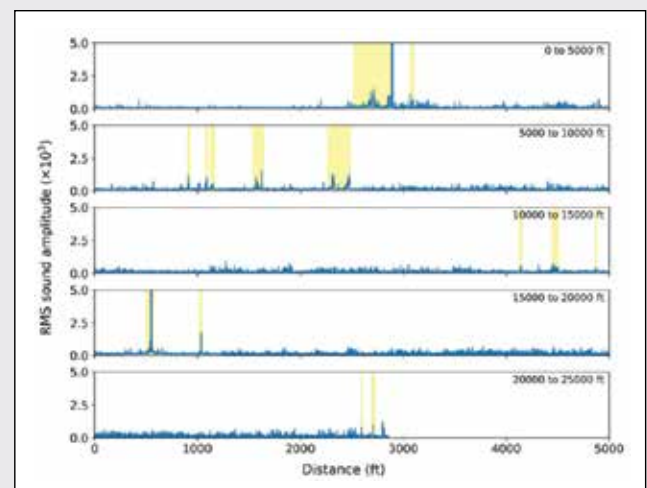

Figure 4. Recon+ Acoustic Sensor Results
The acoustic sensor did not detect any leaks but did identify fourteen (14) air pockets. Leaks and air pockets can be distinguished due to the spectral signatures in the data post processing, where leaks are a point source with a single intense peak that fades quickly on each side of the spectral analysis whereas the air pocket is more significantly spread out in the spectral analysis. The fourteen (14) air pockets identified are shown in Figure 4, highlighted in yellow.